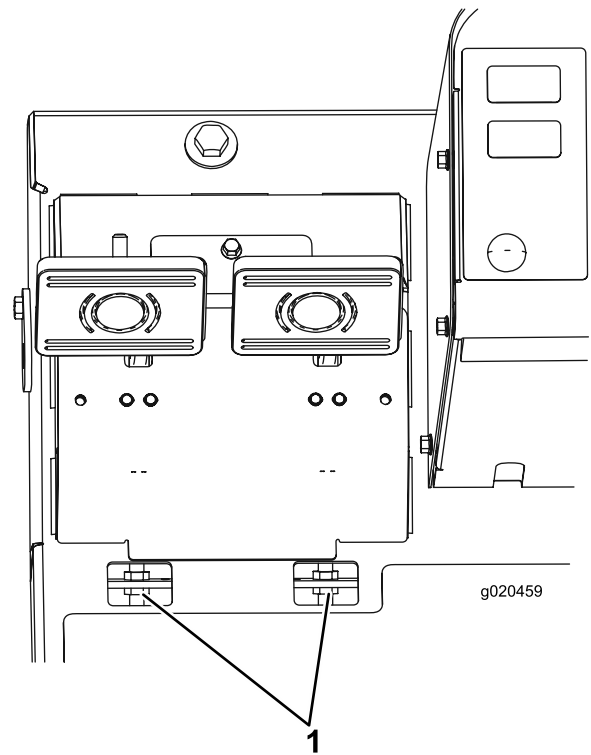

Figure 95
- B. Loosen the front nut on the threaded end of the brake cable (Figure 95).